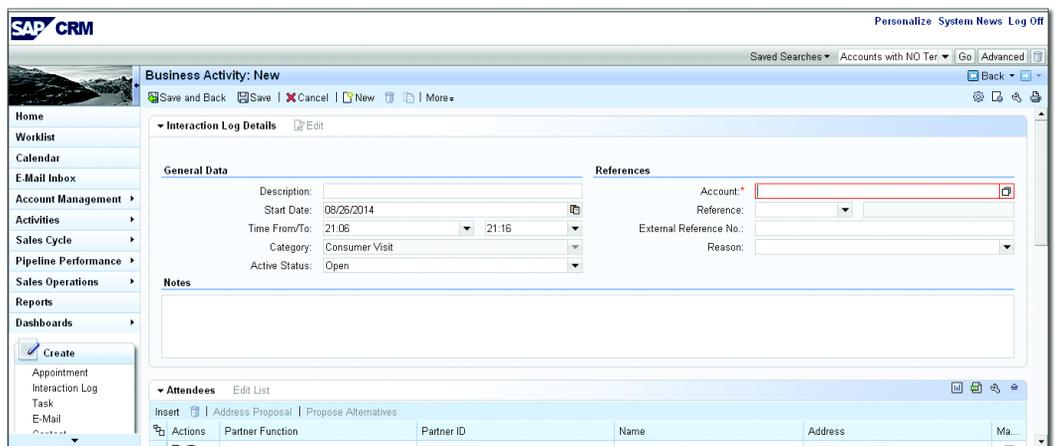

Figure 8.58 Business Activity Page
1. Launch the WebClient UI screen on which you want to add the new field. In this example, it's the BUSINESS ACTIVITY: NEW page, as shown in Figure 8.58.